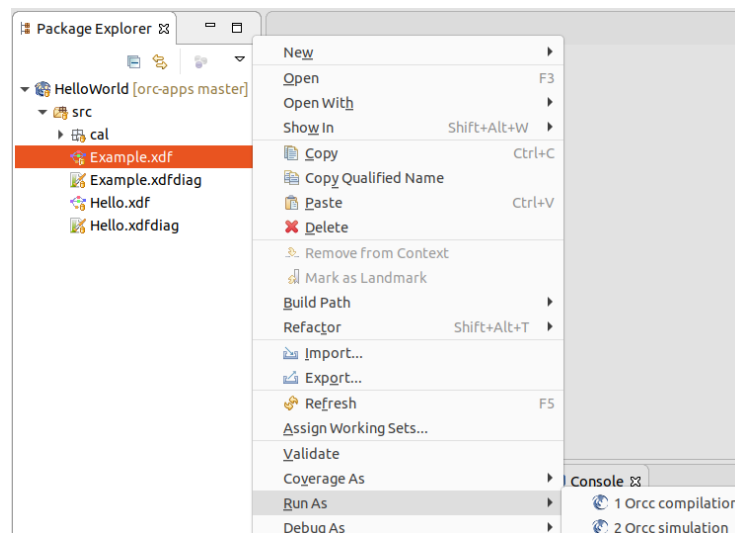

Figure 8.1: ORCC Run as Menu Snapshot.
- On the Package Explorer click on Example.xdf -> Run As -> 1 Orcc Compilation . (see figure 8.1).